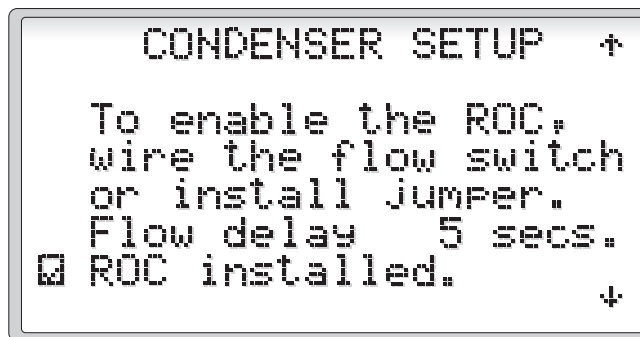

Figure 18
2.3.3.1.2 Configuration – Condenser Setup (Figure 18)
Pressing the **DOWN** key will now display the CONDENSER SETUP screen (Figure 18). This screen allows a delay in establishing condenser flow if a tower water condenser is used. When the condenser is connected to the dehumidifier, check the ROC Installed box. Checking this box along with the state of digital input #7 will determine if the ROC is available or unavailable.